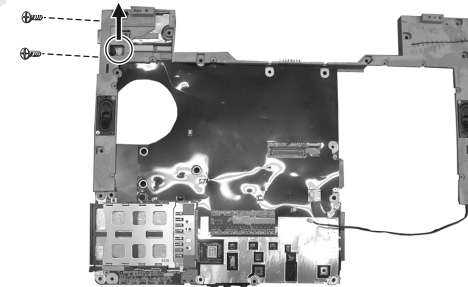

Figure 2-30 Free the system board
3. Disconnect the other speaker's cables from the system board and remove two screws, Then separate the bracket and free the system board. (Figure 2-30)